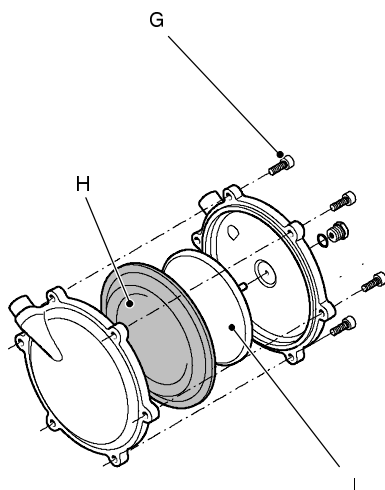

fig. 28
Assembling the part, ensure to place the concave side of the membrane towards the actuator plate I (fig. 28).
- 4 Unscrew the six screws G, open the hydraulic actuator and remove the membrane H. (fig. 28).